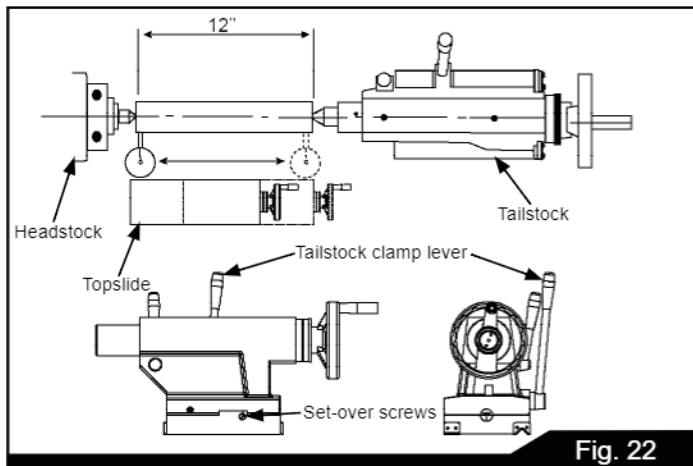

Fig. 22
**Headstock check:** Take a light cut with a sharp tool over a 6 inch (150 mm) length of a 2 inch diameter (50 mm) steel bar gripped in the chuck but not supported at the free end. Micrometer readings at each end of the turned length (See Figure 22) should be the same.